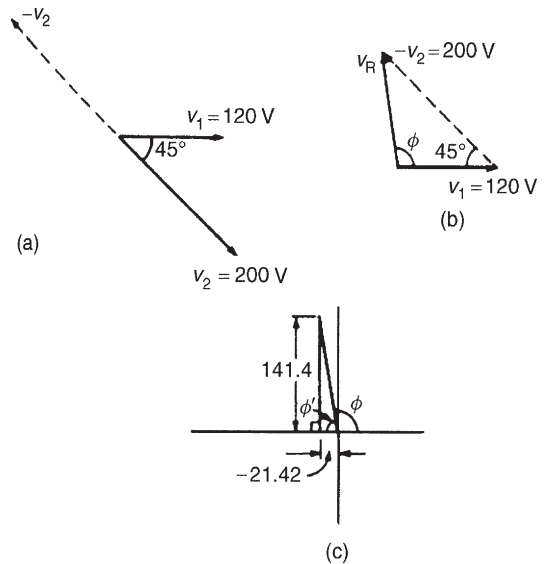

Figure 14.14
- (b) The relative positions of  $v_1$  and  $v_2$  are shown at time  $t=0$  as phasors in Fig. 14.14(a). Since the resultant of  $v_1 - v_2$  is required,  $-v_2$  is drawn in the opposite direction to  $+v_2$  and is shown by the broken line in Fig. 14.14(a). The phasor diagram with the resultant is shown in Fig. 14.14(b) where  $-v_2$  is added phasorially to  $v_1$
From Fig. 14.14(c), resultant